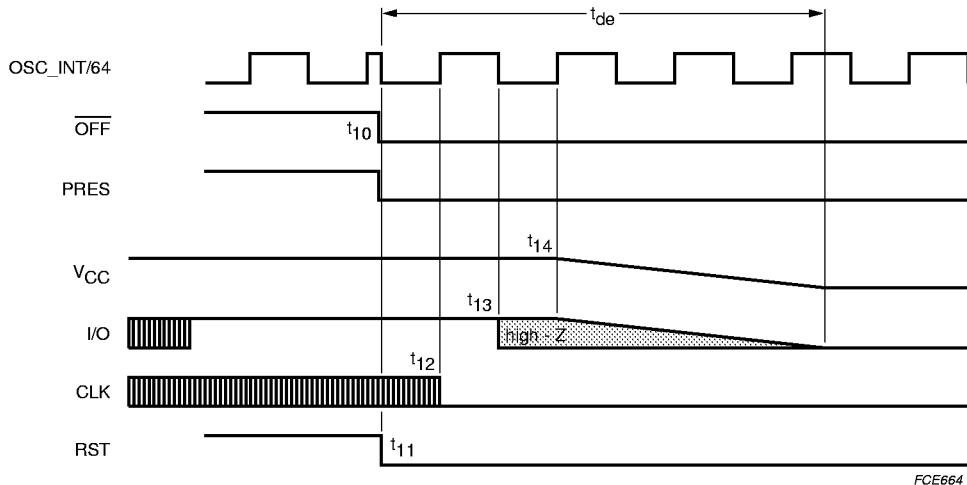

Fig.8 Emergency deactivation sequence.
2. \overline{CMDVCC} LOW: (within a card session) then, \overline{OFF} falls LOW if the card is extracted, or if a short-circuit has occurred on V_{CC} , or if the temperature on the IC has become too high. As soon as the fault is detected, an emergency deactivation is automatically performed (see Fig.8).